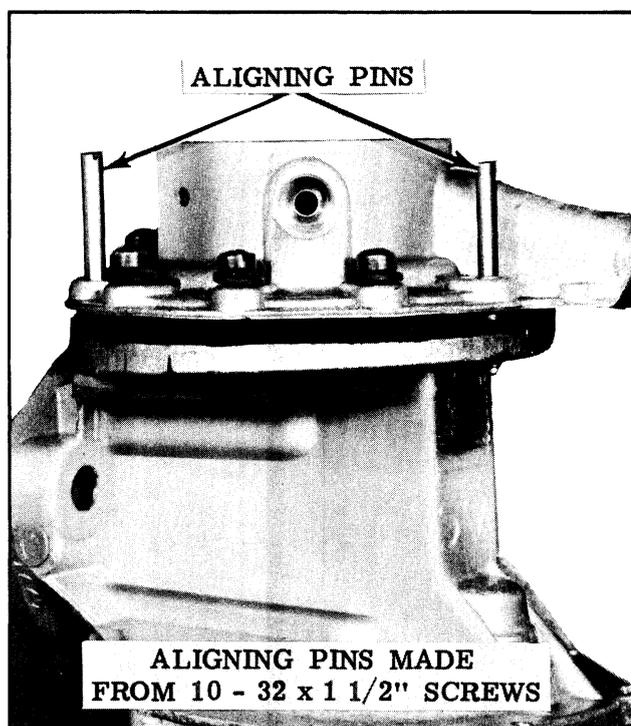

Fig. 8-72 Installing Fuel Cover
5. With pump held in a vise, fuel pump up, using aligning pins as shown in Fig. 8-72, lift rocker arm until the diaphragm is flat across the body flange and install fuel cover on body, making sure that file marks on cover and body line up. While holding diaphragm flat, install cover screws and lock washers loosely until screws just engage lock washers. Remove aligning pins and install remaining screws with lock washers.